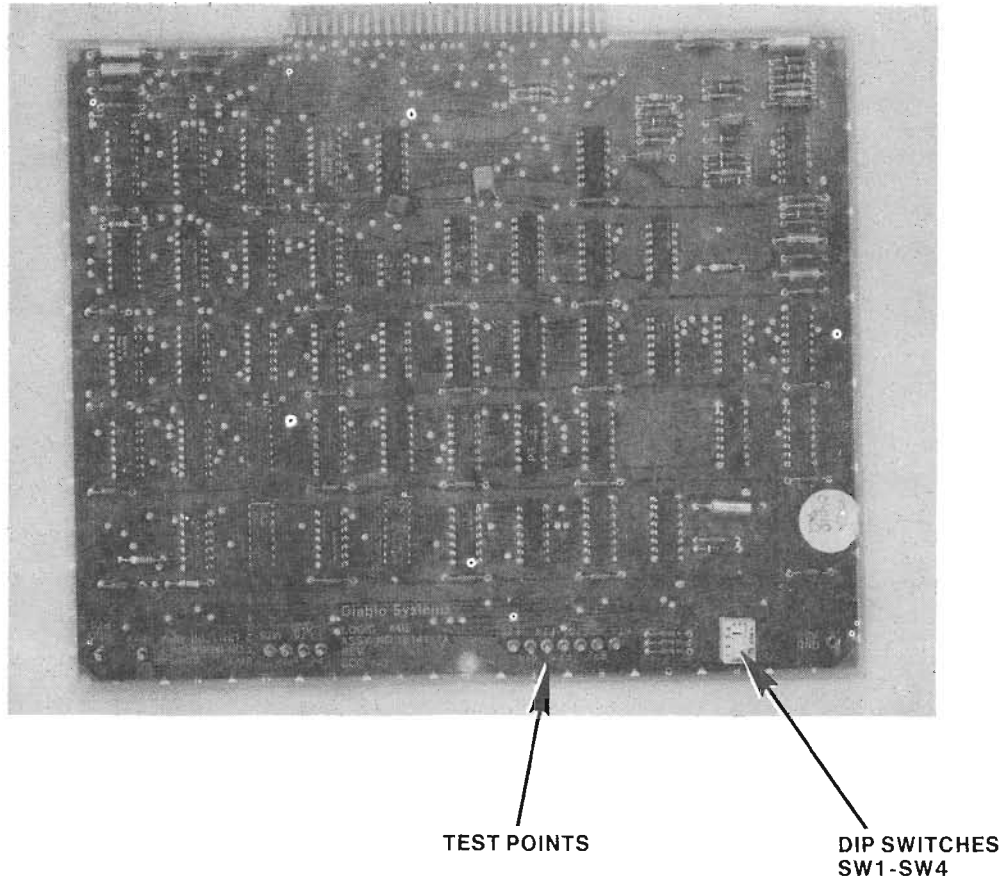

FIGURE 3 LOGIC PCB NO. 12141-PARTS LOCATION
- c. On Logic PCB 12141 or 12065, set switch SW 1 to ON position (see figures 3 and 4) "INDEX ONLY".